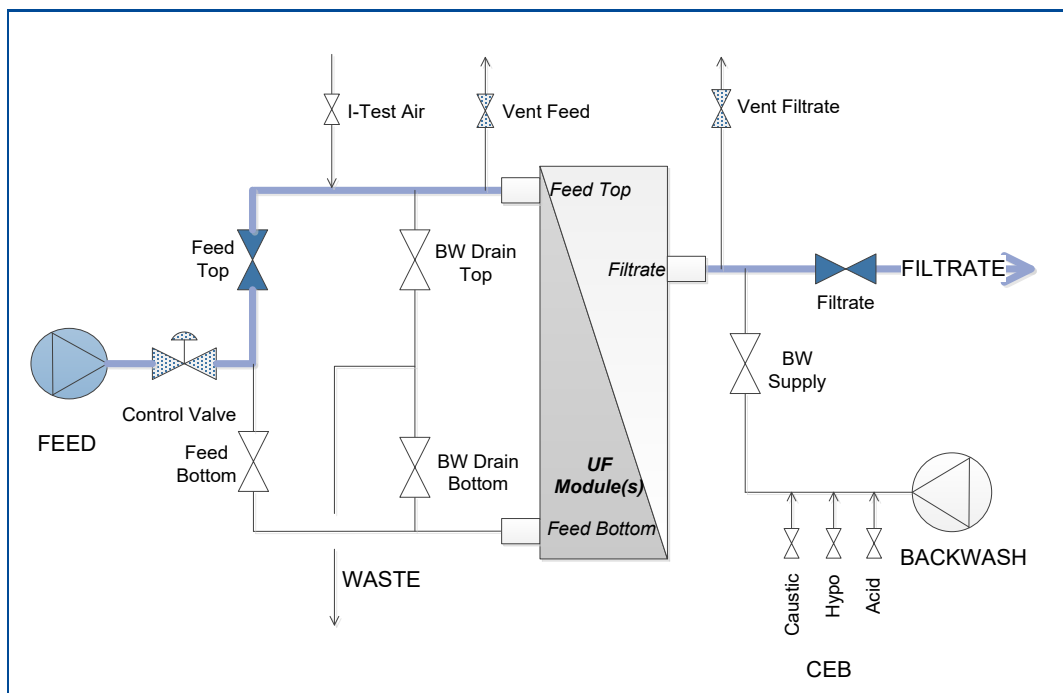
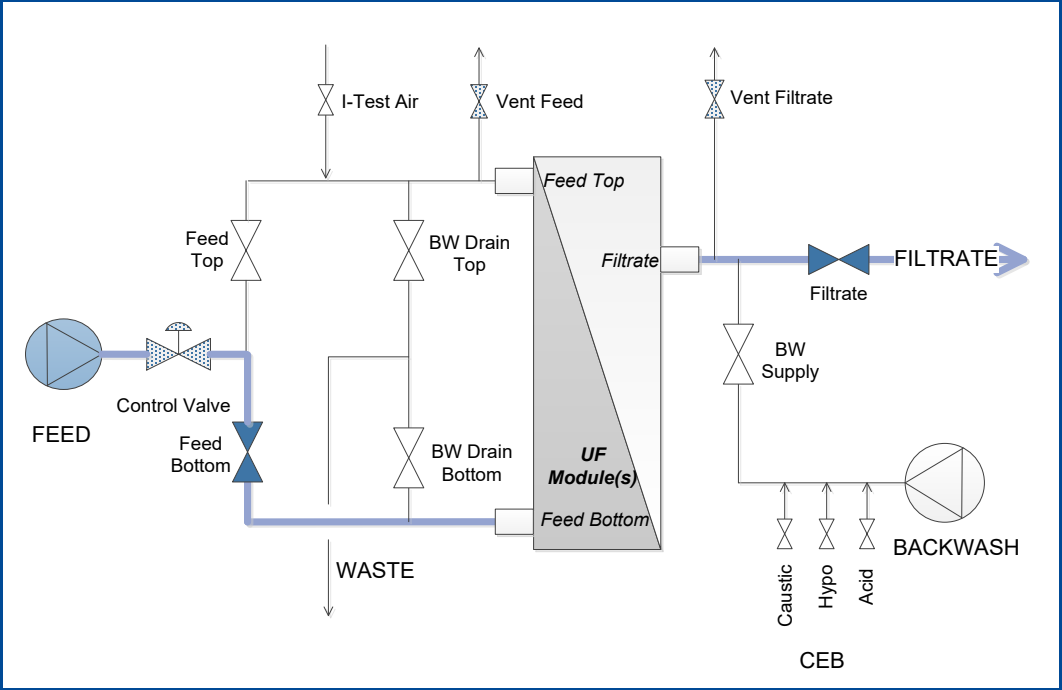

Figure 4.1-1 - Filtration Top (FT) mode
Figure 4.1-2 - Filtration Bottom (FB) mode
The diagrams below show the two operating modes "Filtration Top" and "Filtration Bottom" in dead-end mode. Figure 4.1-1 shows filtration being performed from top (FT) with the source-water being fed into the top of the module, while Figure 4.1-2 shows filtration being performed from bottom (FB) with the source-water being fed into the bottom of the module.